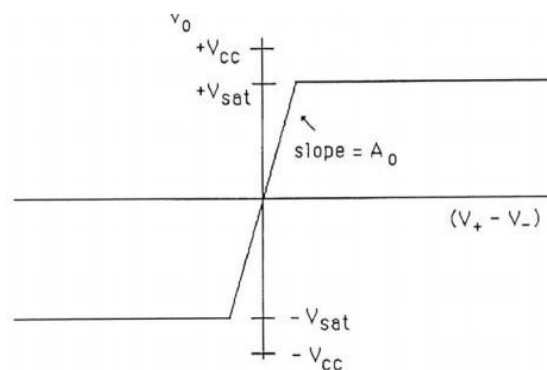

Figure 3: Input-output characteristics of an ideal op amp
- The input-output characteristics of an op amp are as shown in Figure 3 below. When the differential input voltage level is within the linear region where the slope is given by A , the output is given by the differential input multiplied by A . Otherwise, the output is saturated at $\pm V_{sat}$. The saturation voltage, V_{sat} is determined by the power supply voltage. V_{sat} is usually 1V lower than V_{CC} .